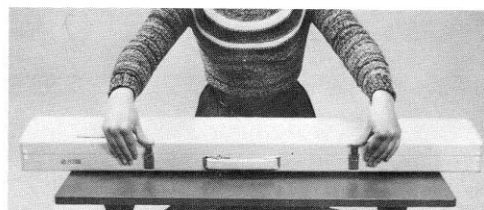

Fig.5
1. Place the machine on a firm table with the name plate uppermost and the carrying handle to the back, and unfasten both clasps. (Fig.5)